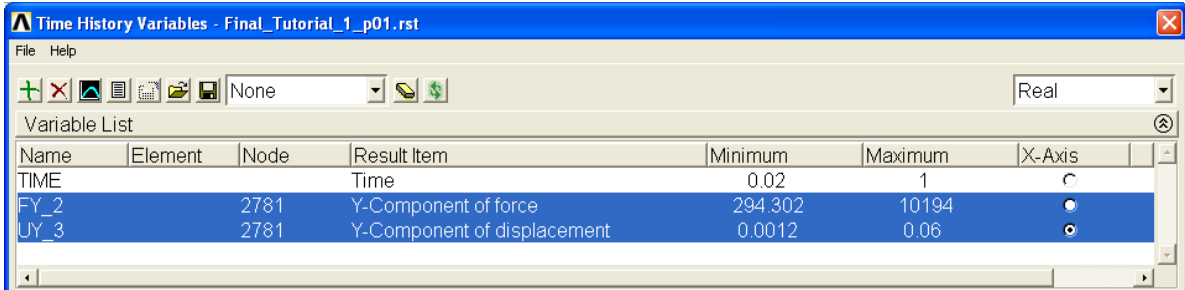

Figure 17. Time History Variables GUI.
6. To plot the reaction force vs. displacement, set the X-Axis to **UY_3**, select **FY_2** and **UY_3**, and click the **Graph Data** icon. Refer to Figure 17.